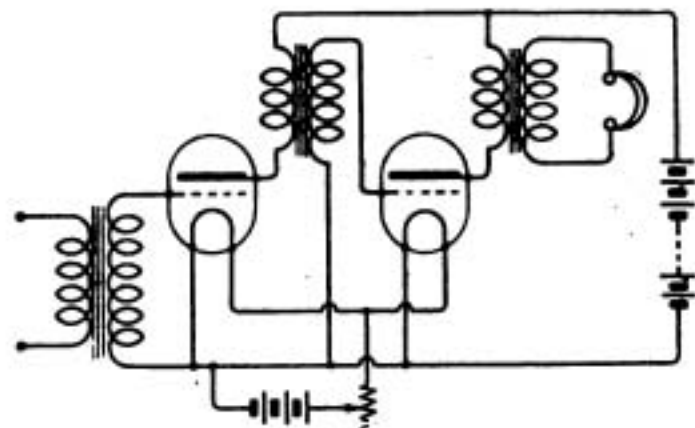

Fig. 1.
**W.A.S. (Hounslow)** asks (1) For a diagram of connections for adding two amplifying valves to his detecting valve. (2) What is the best method of receiving telephony. (3) The best way of utilising an aerial consisting of 1.22 D.C.C. hung on the picture rail round the room. (4) For formula for working out the capacity of tubular condensers.
(1) See diagram Fig. 1.